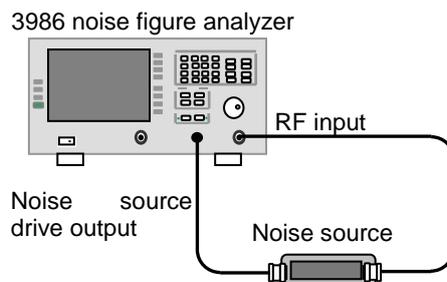

Figure 8.8 Test Block Diagram of Local Noise Figure
Step 1. Connect the test equipment as shown in Figure 8.8 and warm it up for 30min.
Step 1. Connect the test equipment as shown in Figure 8.8 and warm it up for 30 min.